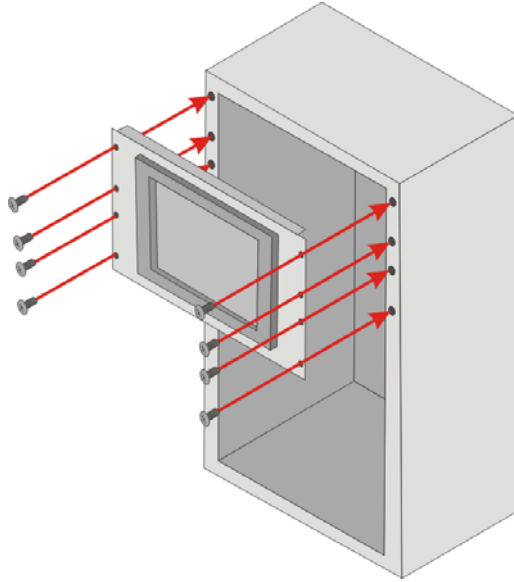

Figure 4-17: Install into a Rack/Cabinet
Step 4: Slide the flat bezel panel PC with the attached rack/cabinet bracket into a rack or cabinet (**Figure 4-17**).
Step 5: Once the flat bezel panel PC with the attached rack/cabinet bracket has been properly inserted into the rack or cabinet, secure the front of the rack/cabinet bracket to the front of the rack or cabinet (**Figure 4-17**).
Step 2: **Connect the RJ-45 to COM port cable to the panel PC.** Insert the RJ-45 connector end of cable into the RJ-45 serial port. See **Figure 4-17**.
Step 3: **Connect the serial device.** Connect a serial device to the DB-9 connector end of the cable. See **Figure 4-17**.